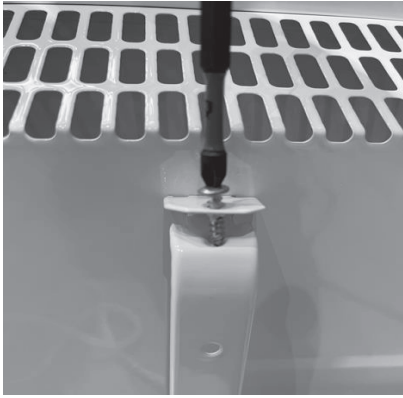

Fig.1
- 2. Remove the screws (keep the screws for fixing later) on the tabs then pinch the tabs on the top of the two vertical bars and pull outwards (Fig. 1,2,3).